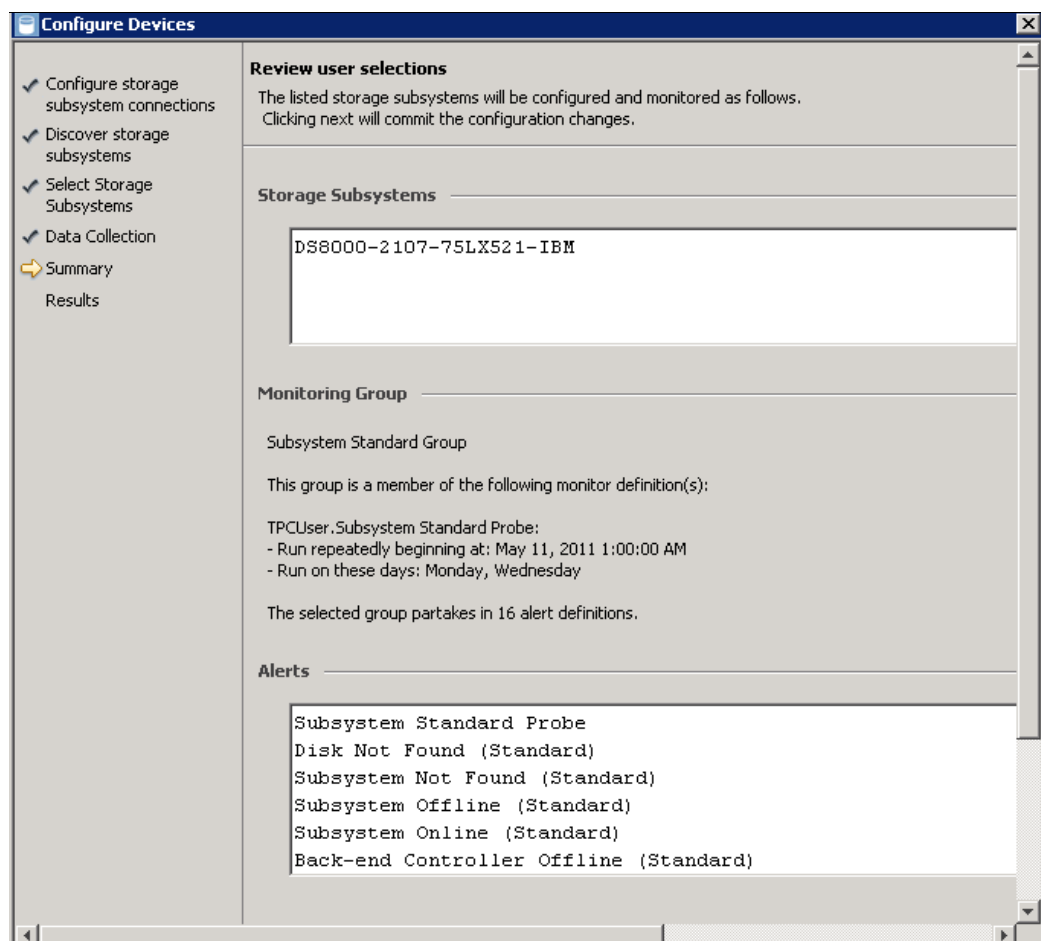

Figure 12-17 Review User Selections from Monitoring Group : Subsystem Standard Group
In Figure 12-17 on page 298, the **Select monitoring group** field shows information about the group or template that you selected.
11. From the Review user selections window (Figure 12-17 on page 298), review the configuration choices that you made for the DS8000 by using the Configure Devices wizard: